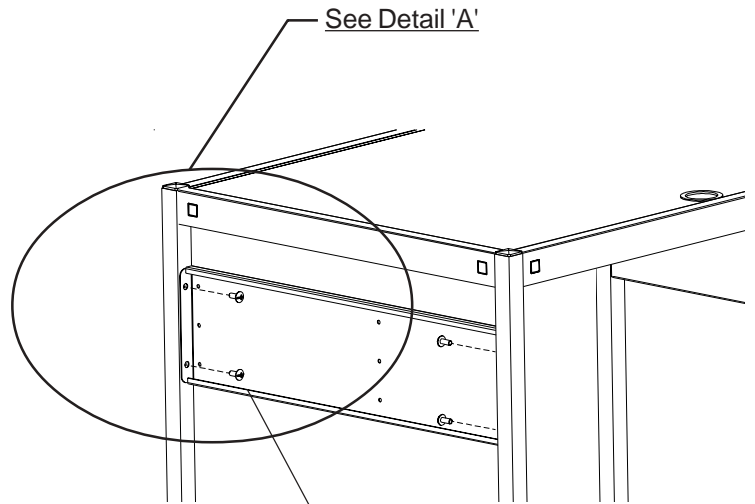

FIGURE 3
Attach shelf support brackets to upper portion of rear legs with screws (CC) as shown in **FIGURE 3**. Refer to **Detail 'A'** for correct position of bracket. Then separate each slide and attach the outer section to the inside of each shelf support bracket with screws (DD) and nuts (EE) as shown in **FIGURE 4**. **NOTE: Attach rear screw and nut first.**